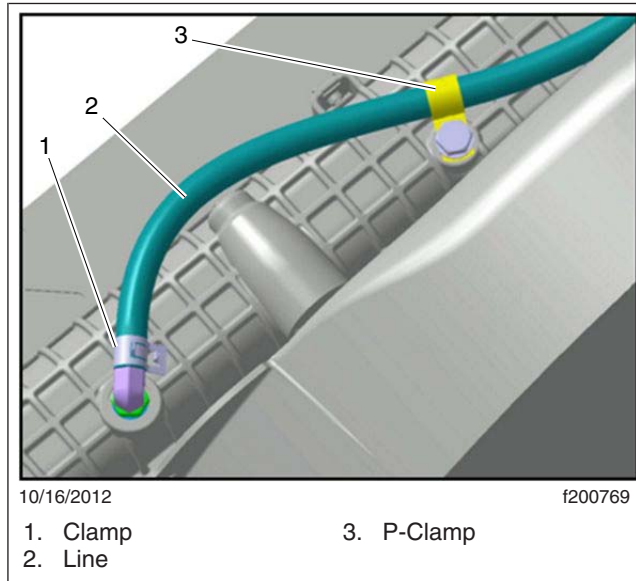

Fig. 6, Surge Tank Vent Line
7. Disconnect the surge tank vent line. See Fig. 6.